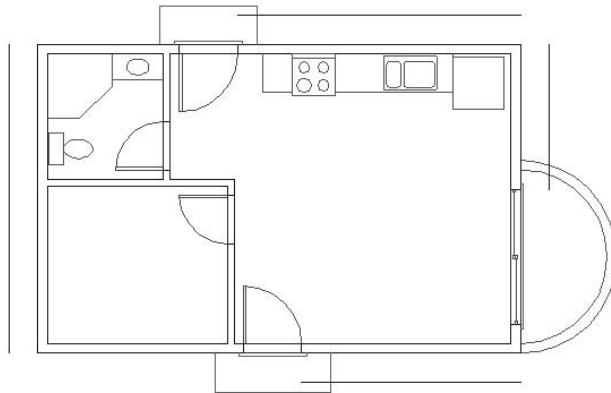

FIGURE 6.25: One outside wall line is offset to each side of the building.
3. Repeat this for the other two sides of the building until you have offset one outside wall line to the outside of the building on each side of the cabin (see Figure 6.25). Press `↵` to end the Offset command. Be sure you have only one line offset on each side of the building. If you offset two lines on one side, erase one. Start the Offset command again, type `L↵`, then type `s↵` to reset the Layer setting to Source. Then press `Esc` to end the Offset command.